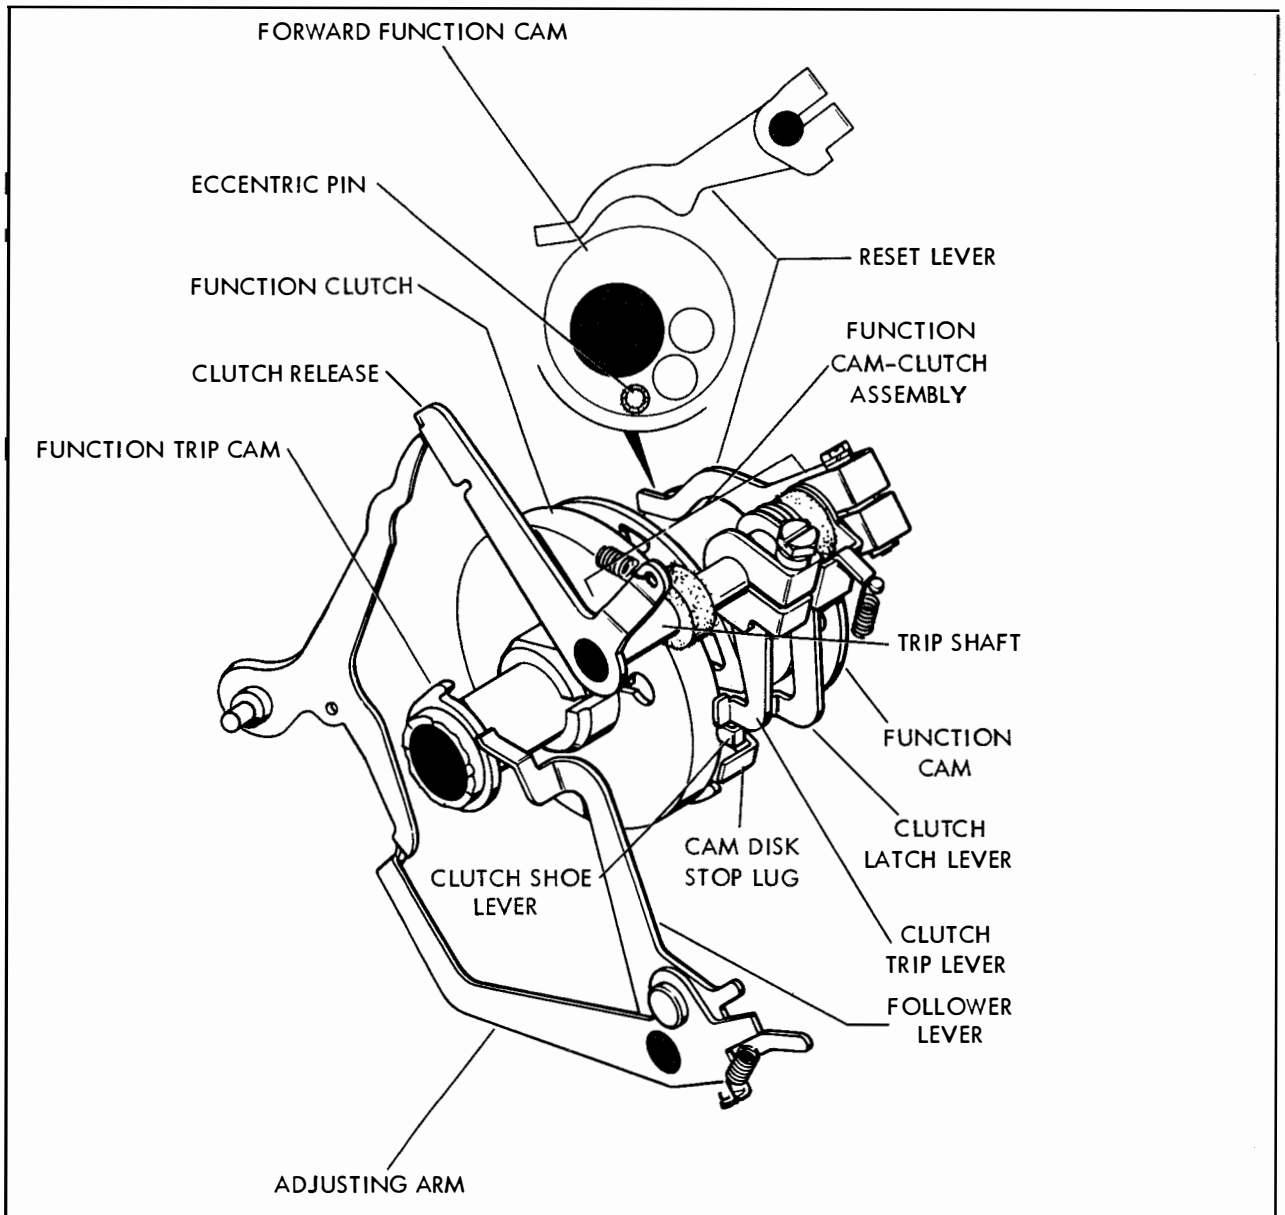

FIGURE 6-6. FUNCTION CAM-CLUTCH AND CLUTCH TRIP ASSEMBLY
#### (5) Function Cam-Clutch and Clutch Trip Assembly (Figure 6-6)